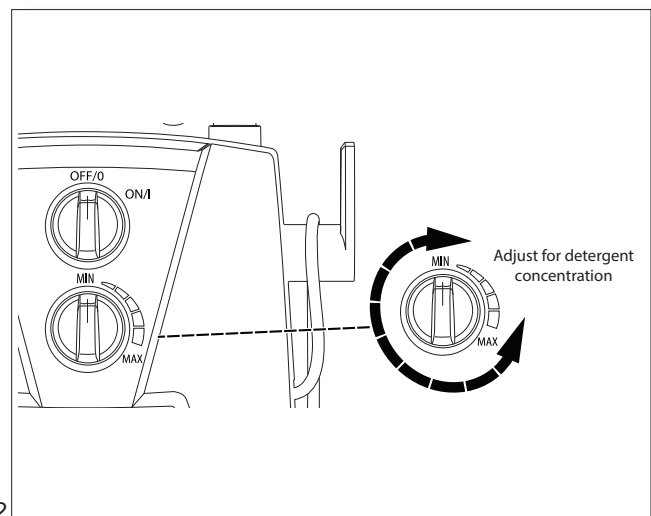

Fig. 13
- The power washer will pull a ratio of water to detergent of 10:1 or 10 parts water to 1 part detergent. The detergent concentration can be adjusted by turning the detergent knob on the front of the machine. Turn it right for more concentration or turn it left for less concentration. (**Fig. 13**)